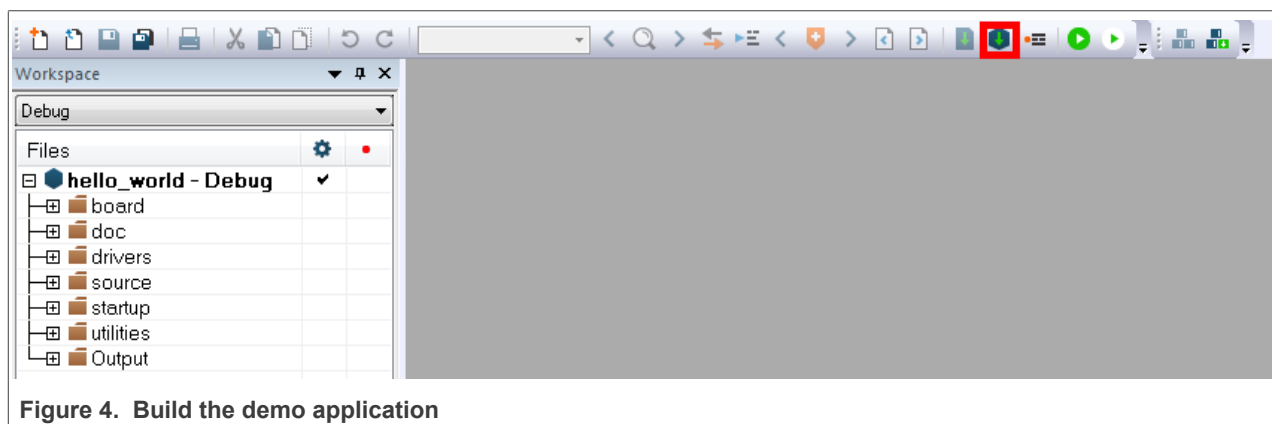

Figure 4. Build the demo application
3. To build the demo application, click **Make**, highlighted in red in Figure 4.